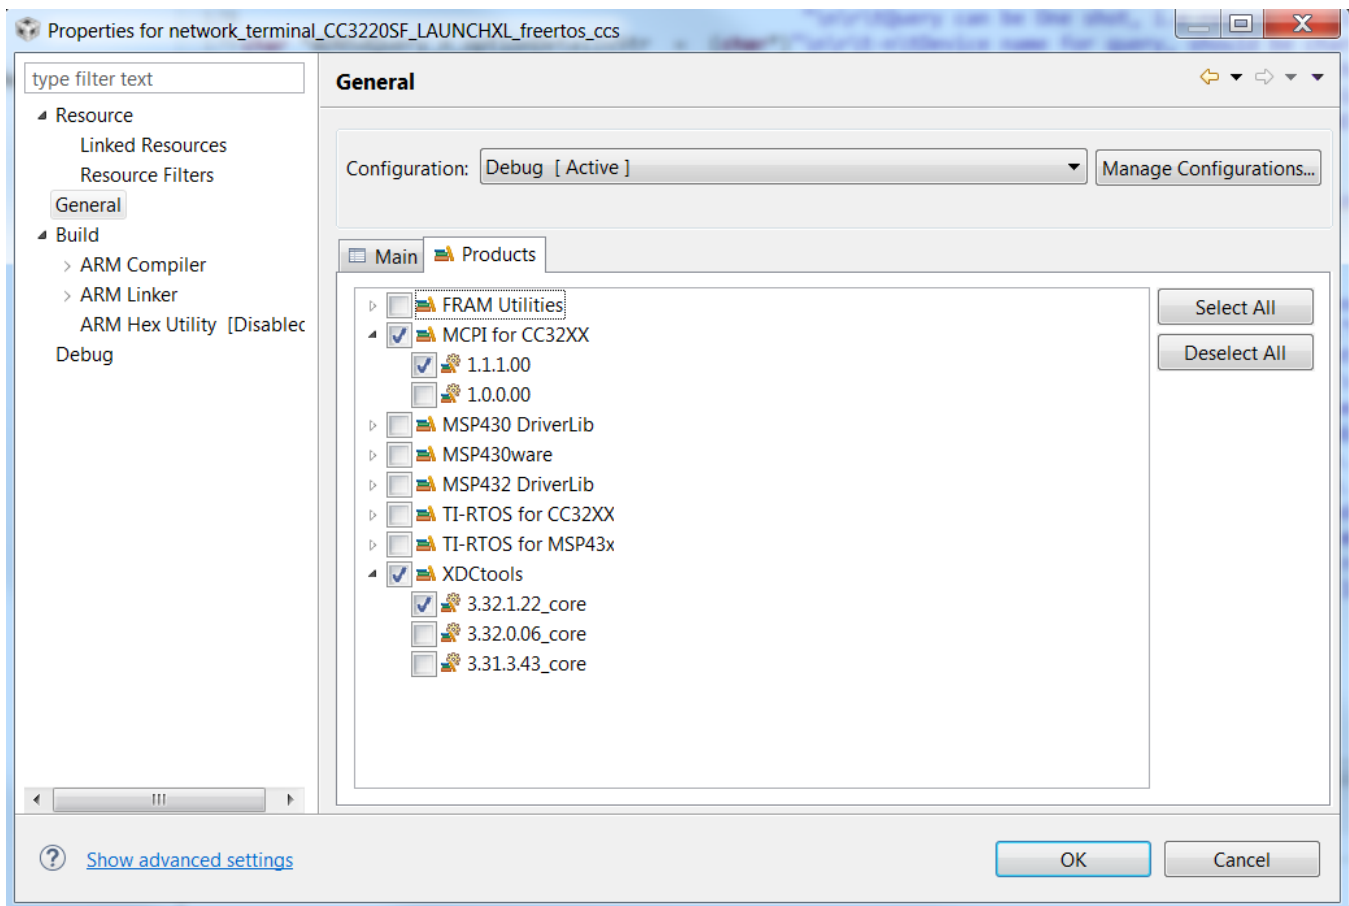

Figure 3-3. Select tirtos_config Project
5. Select the `tirtos_builds_CC3220SF_LAUNCHXL_custom_ccs` project in Project Explorer, and select Project → Properties from the menu. Under General, select the RTSC tab, as shown in Figure 3-3. Make sure the latest versions of XDCtools and MCPI for CC32XX solutions are selected. Verify the same is configured for `network_terminal_CC3220SF_LAUNCHXL_freertos_ccs`.